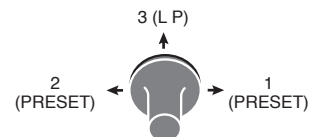

Fig. 6-4 Stick switch (Auto-mode)
- (3) Press the stick SW (1 or 2 or 3) for that position to complete the procedure.(Fig.6-4)